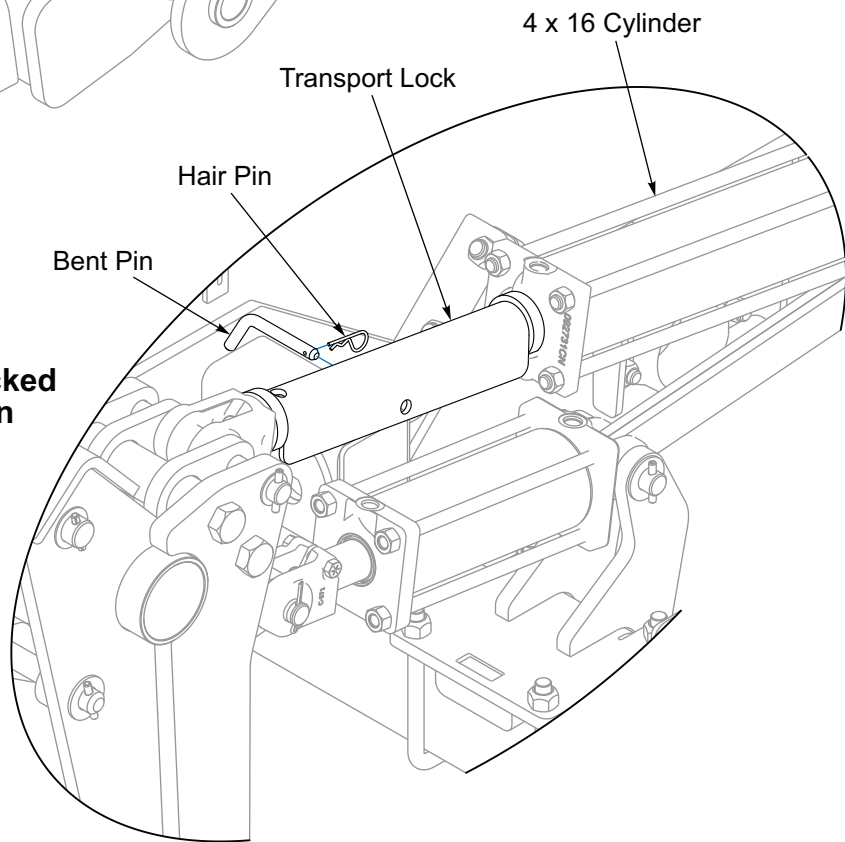
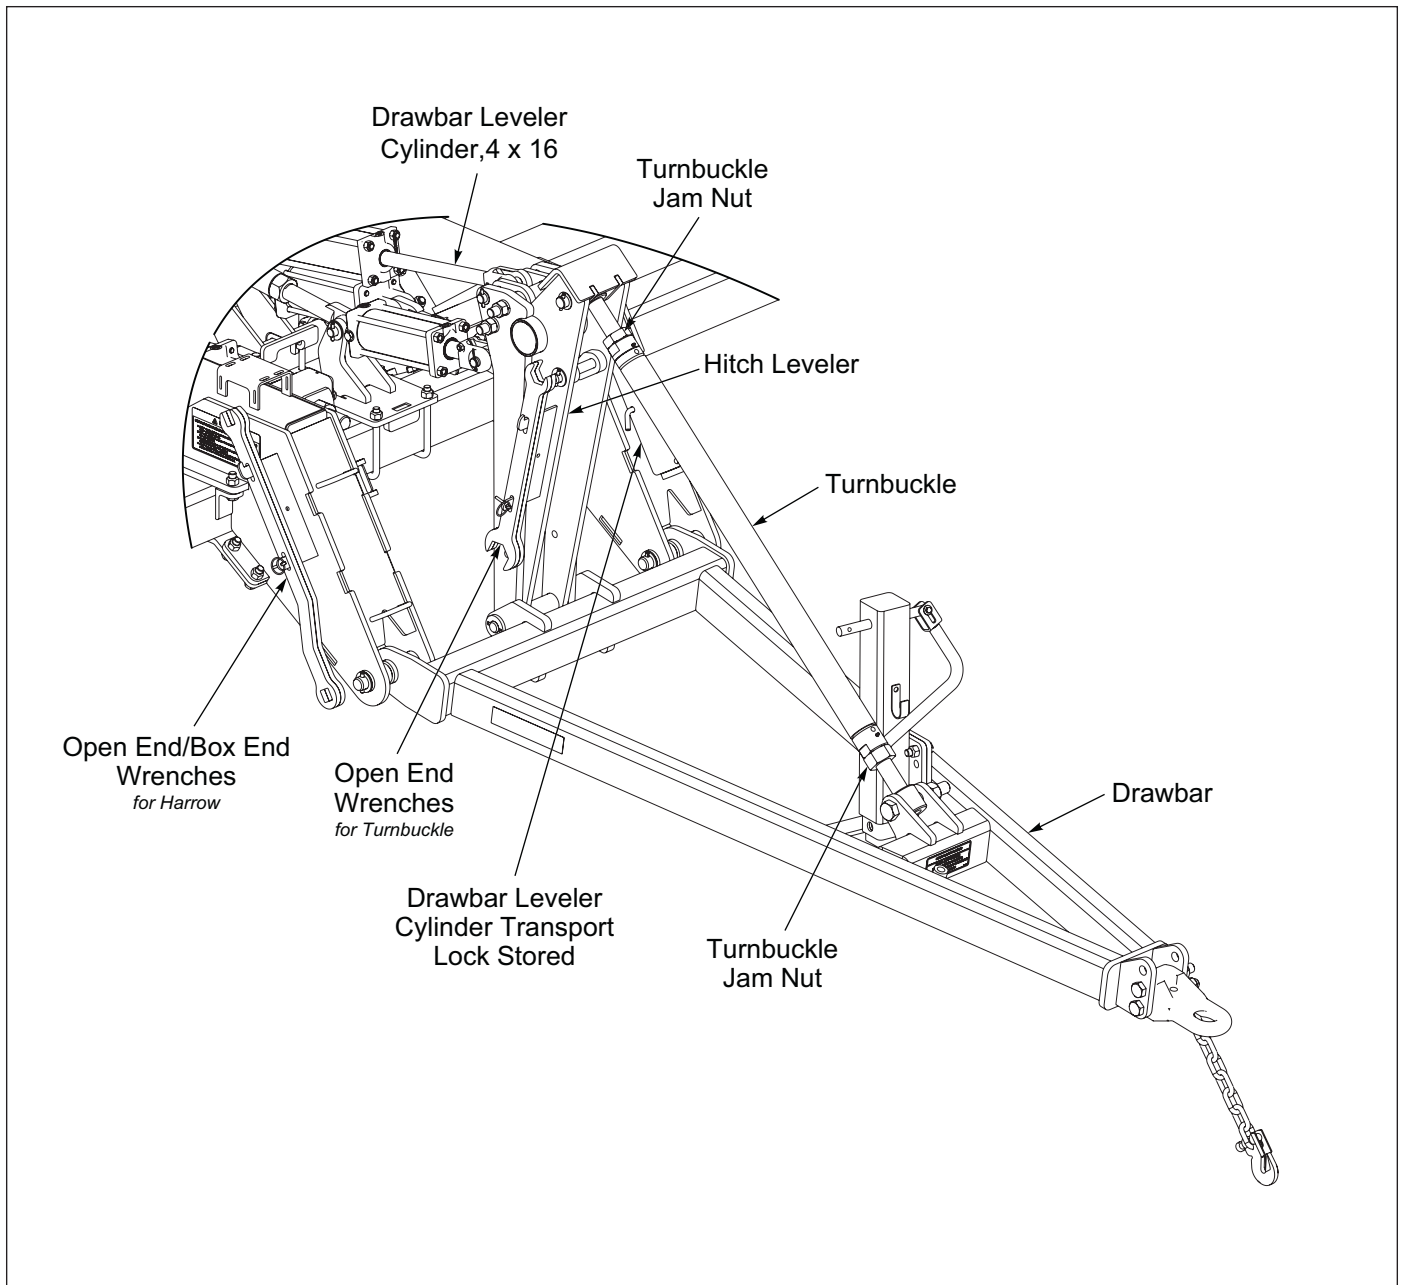

Figure 3-6: Drawbar Leveler Lock Positions
Figure 3-7: Drawbar Turnbuckle Adjustment
5. To relieve pressure put circuit in float and machine should remain raised. Be sure to use Transport Locks. See Figures 3-6 and 3-7.
5. Remove Hitch Leveler Transport Lock, Bent Pin and Hair Pin from Hitch Leveler Cylinder and store it on Hitch Leveler Mast Tab. Install Bent Pin and Hairpin. **See Figure 3-6.**
4. Remove Hitch Leveler Transport Lock, Bent Pin and Hair Pin from Hitch Leveler Mast Tab and place Transport Lock over the Hitch Leveler Cylinder Rod. Install Bent Pin and Hairpin. **See Figure 3-6.**
The Pulvi-Mulcher drawbar is designed to float in Field Position and lock into a set position in transport. Depending on tractor hitch height, the Turnbuckle may need to be adjusted to level machine front to rear in transport. Use the open end wrenches located on the Hitch Leveler. **See Figure 3-7.** Machine may need to be lowered to make adjustment. Remove all transport locks before lowering and ensure shanks are raised. **See Figures 3-6 and 3-7.**